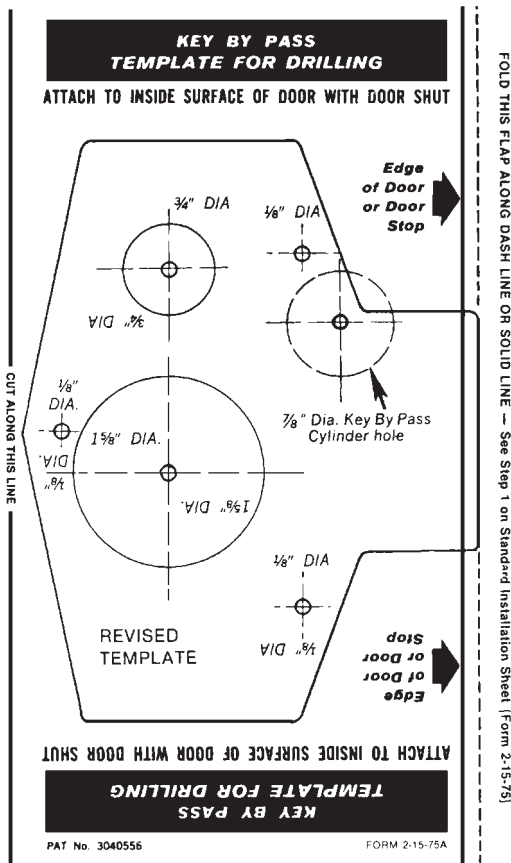

Figure 18.19 Drilling template for the key bypass feature. (Simplex Access Controls Corp.)
- Use the template (Fig. 18.19) for positioning a 7/8-inch-diameter hole for the key lock cylinder.